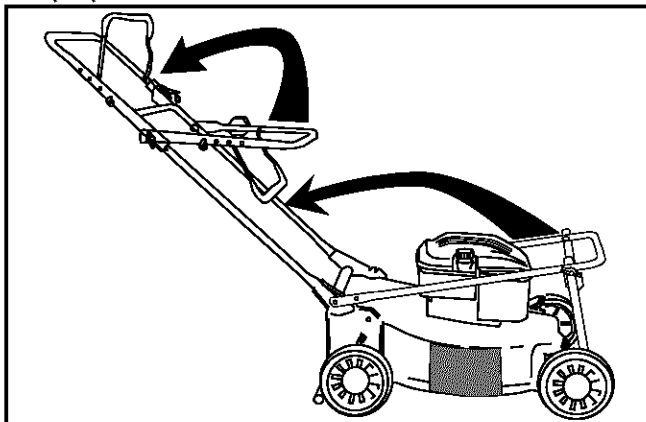
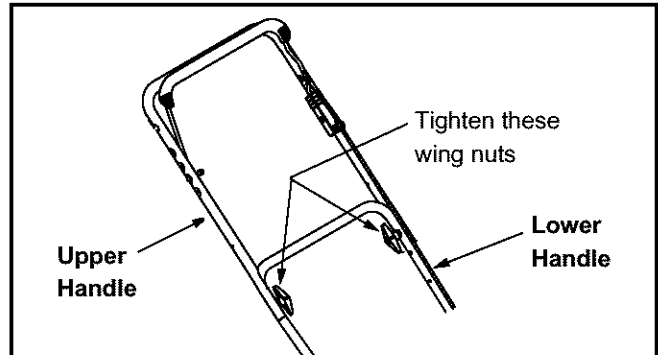

Figure 1
Figure 2
- Raise the lower handle, as shown in Figure 1, until it snaps into place.
- Raise the upper handle as shown in Figure 1. Tighten the wing nuts which are already on the handle. See Figure 2.